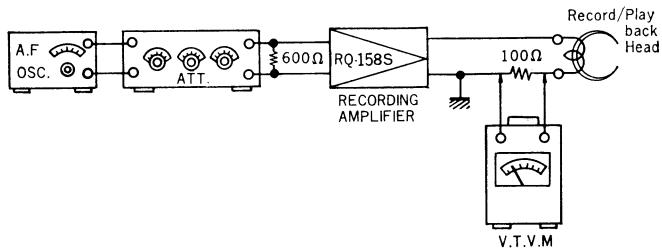

Fig. 6
Measuring Circuit: Refer to Fig. 6
2. As shown in Fig. 6, connect output of AF Oscillator to Microphone Input Jack of model RQ-158S through Attenuator (terminate with 600 Ω if impedance of attenuator is 600 Ω). Disconnect wiring from ground side of Record Head; insert 100 Ω resistor between lead wire and terminal; connect V.T.V.M. across resistor.